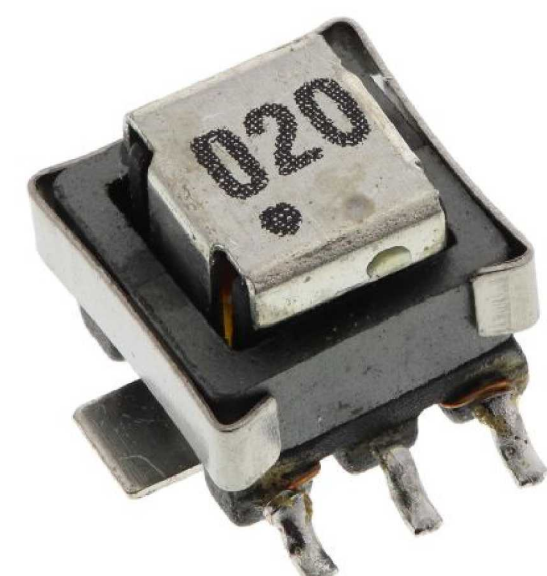

Figure 1. Transformer with two E-core ferrites bonded together.
- Mn-Zn ferrites are used as the core in compact transformers (Fig. 1) used in electronics.